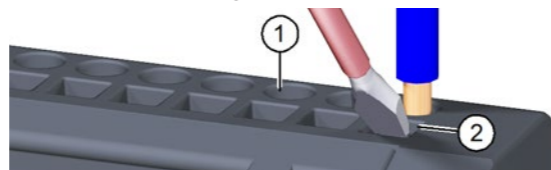

Fig. 6: Wire the backplane
- ▶ Wire the backplane as described in the installation specifications. The openings for the push-in terminals (item 1 in Fig. 6) are at the top and bottom of the backplane. The label on the backplane shows the terminal assignments.
- ▶ Insert the rigid wire or ferrule into the round opening of the push-in terminal (item 1 in Fig. 6) as far as it will go.
- ▶ Insert the screwdriver from the front into the square opening (item 2 in Fig. 6) at a 45° angle.